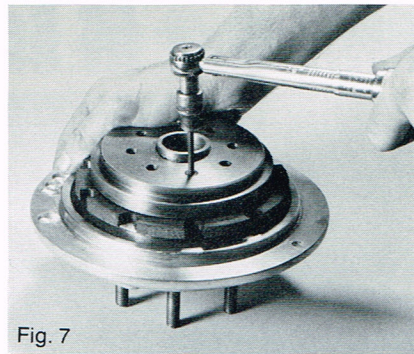

Fig. 7
- 8a. FOR LARGE BEARING CLUTCHES, use a 9/64" allen wrench to LOOSEN the eight socket screws in the backup plate. **CAUTION!** Remove the backup plate carefully using the procedure outlined for Fig. 7.